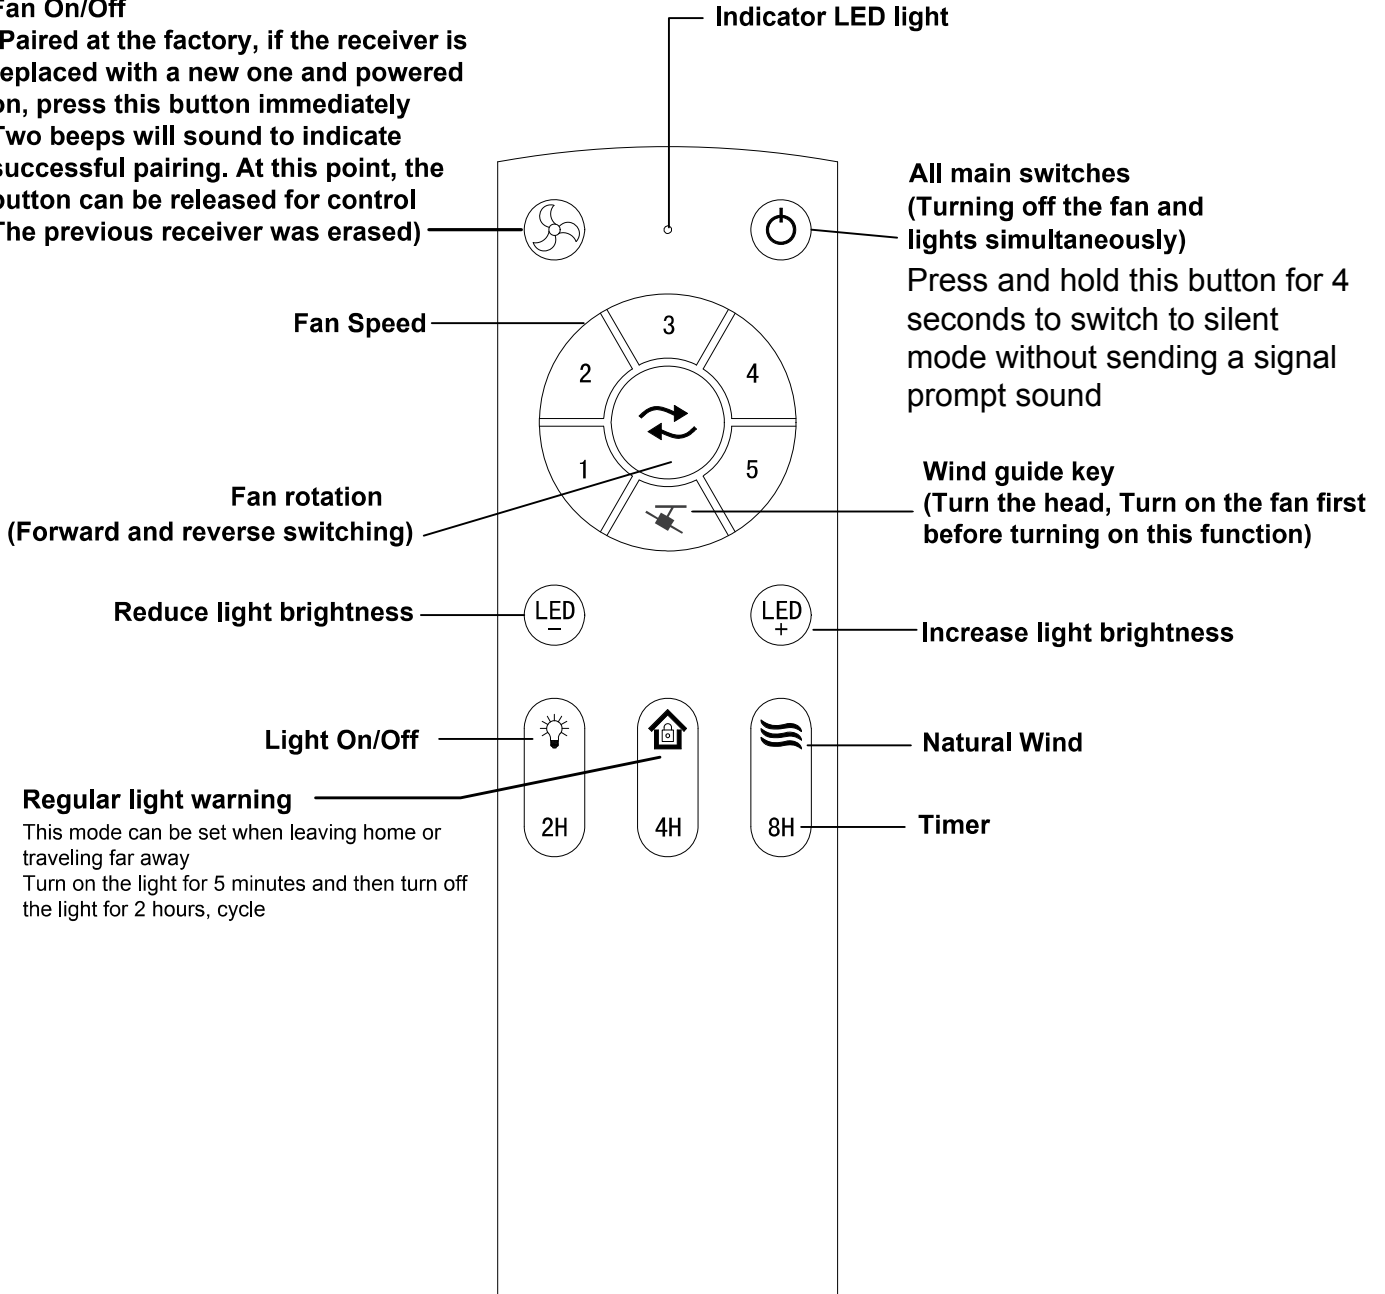

Figure 4
- Remote functions: (Figure 4)